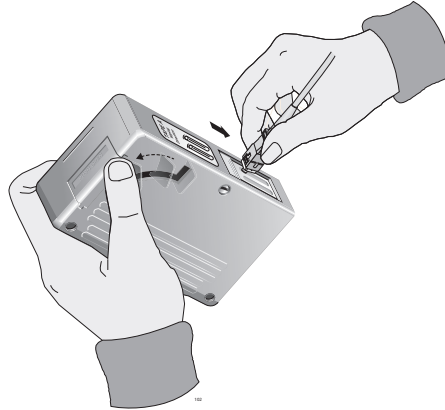

Figure 30. Rubbing the Ferrule Tip on the Cleaning Surface
1. With one hand, hold the cartridge cleaner and push the lever on the cleaning cartridge in the direction of the arrow to expose the cleaning surface, as shown in Figure 30 on page 59.
2. Place the ferrule tip on the exposed cleaning surface and rub the ferrule in a downward direction, as shown in Figure 30 on page 59.